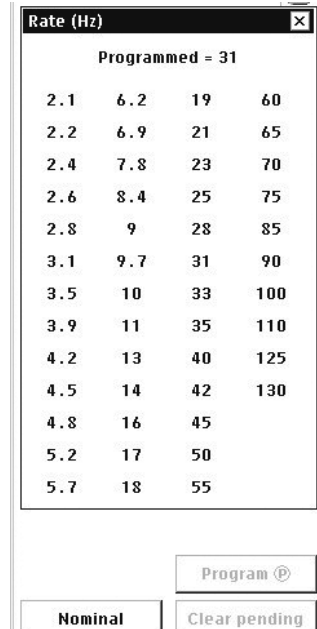

Figure 24. Select rate value.
2. A list of available rate options will appear. Select the target value (Figure 24).